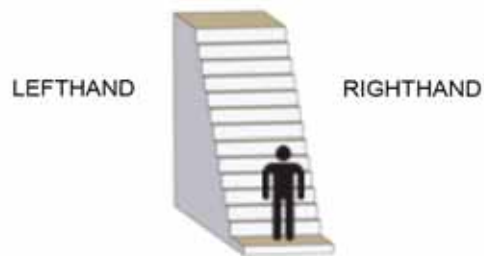

Figure 34-1
1. Determine if the lift will be installed on the right or left side of the staircase. [Figure 34-1]